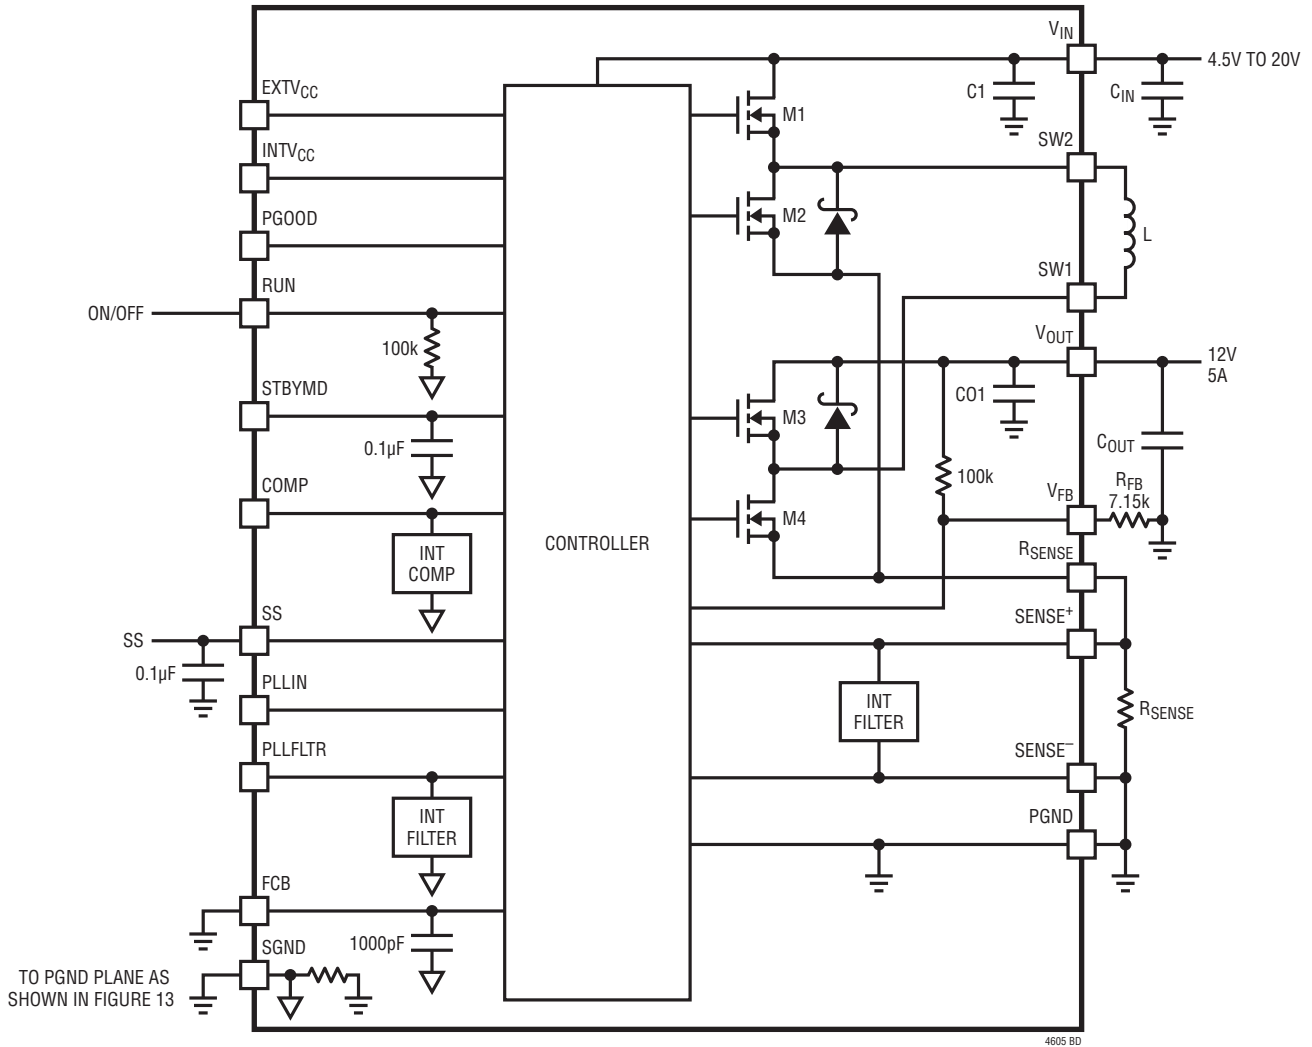

Figure 1. Simplified LTM4605 Block Diagram
**DECOUPLING REQUIREMENTS**  $T_A = 25^\circ\text{C}$ . Use Figure 1 configuration.